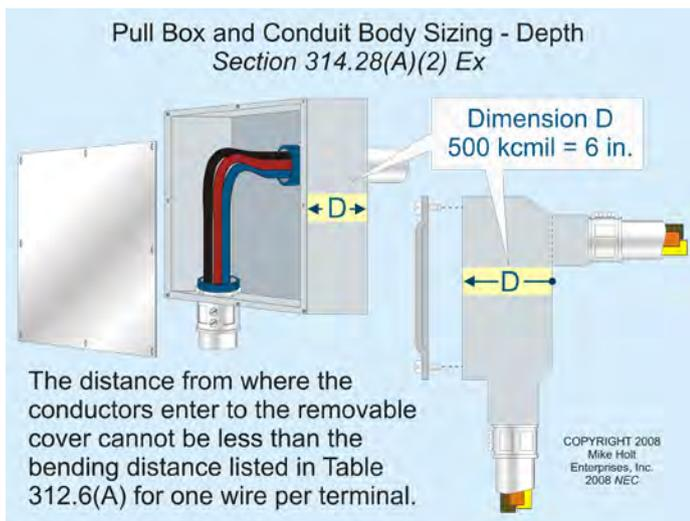

Figure 314–24
Exception: When conductors enter an enclosure with a removable cover, such as a conduit body or wireway, the distance from where the conductors enter to the removable cover must not be less than the bending distance as listed in Table 312.6(A) for one conductor per terminal. Figure 314–24